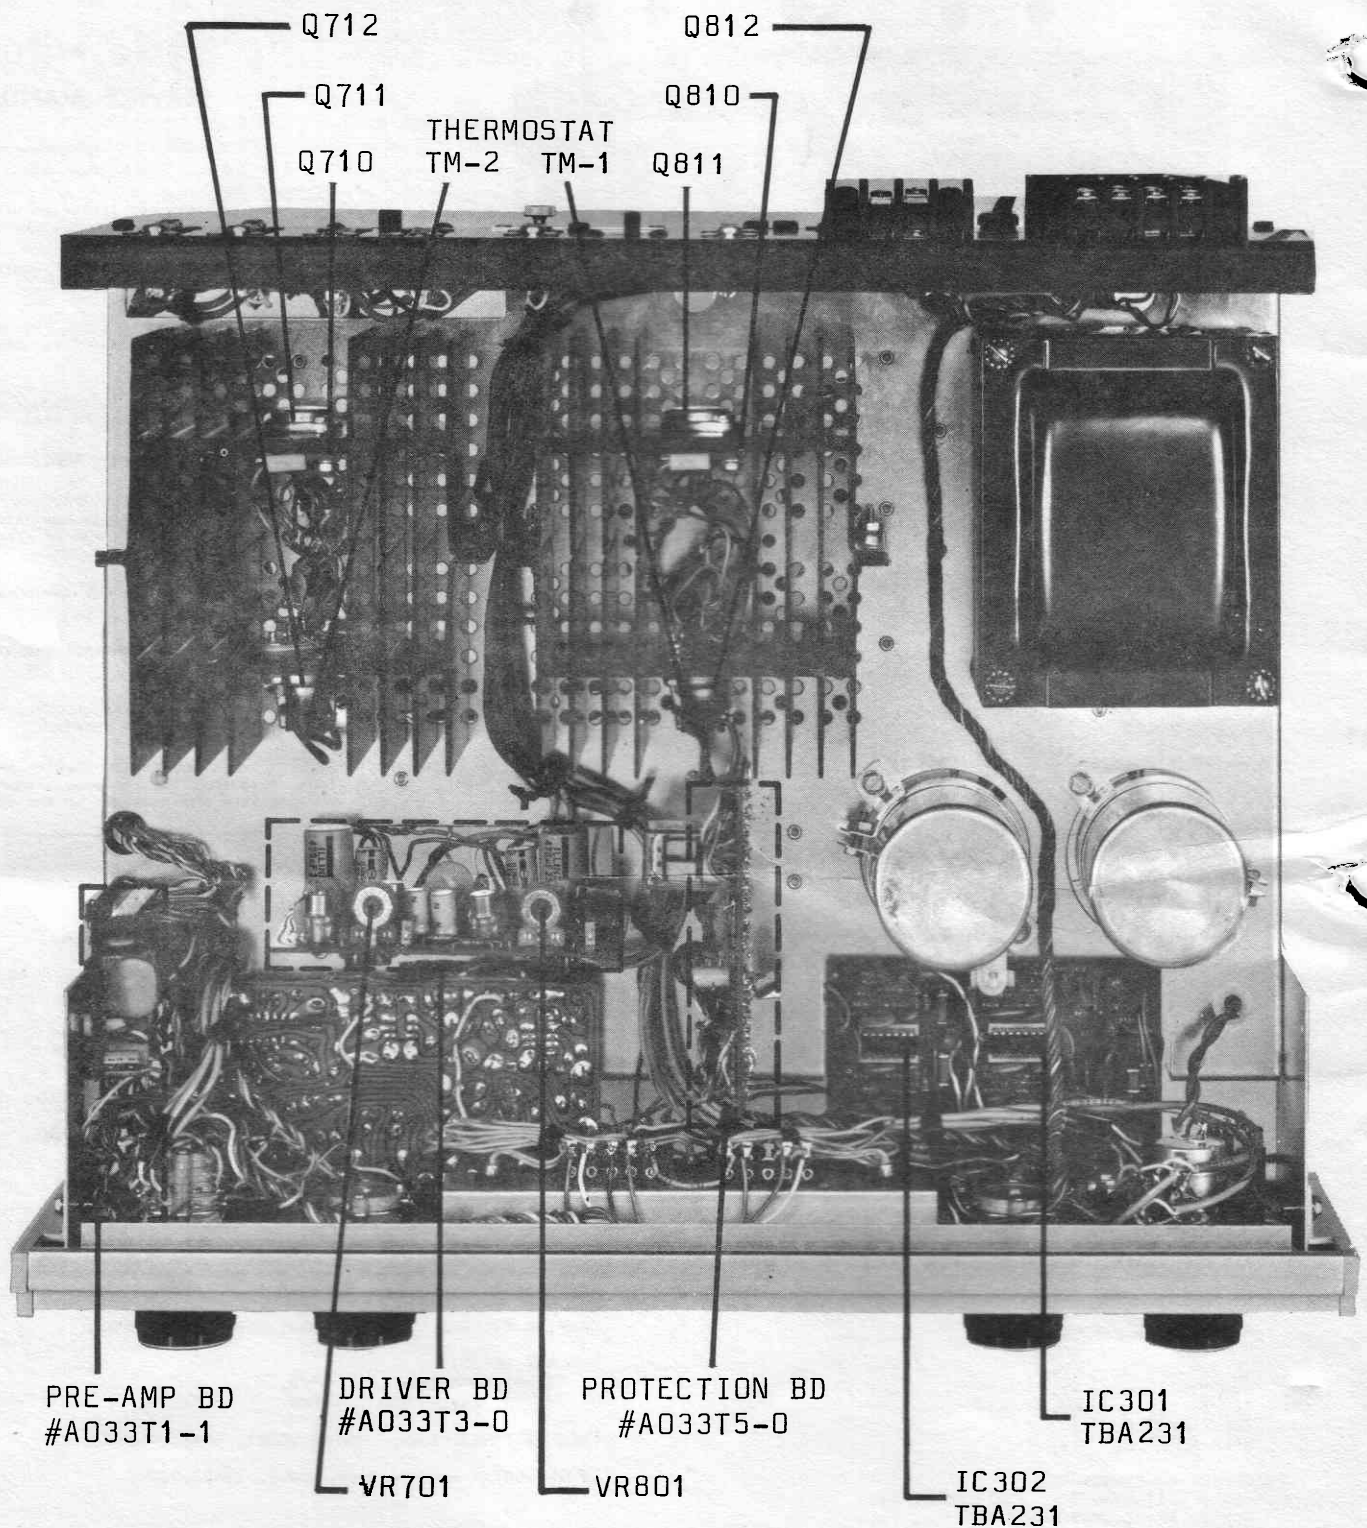

FIGURE 1 (TOP VIEW)
| PARTS LOCATIONS [Fig. 1] | Inside Covers |
1. For simplicity only the left channel and its related circuitry are described. The right channel is identical except for reference symbol numbers [see Schematic Diagram]. For parts locations, refer to Figure 1 on the inside covers.